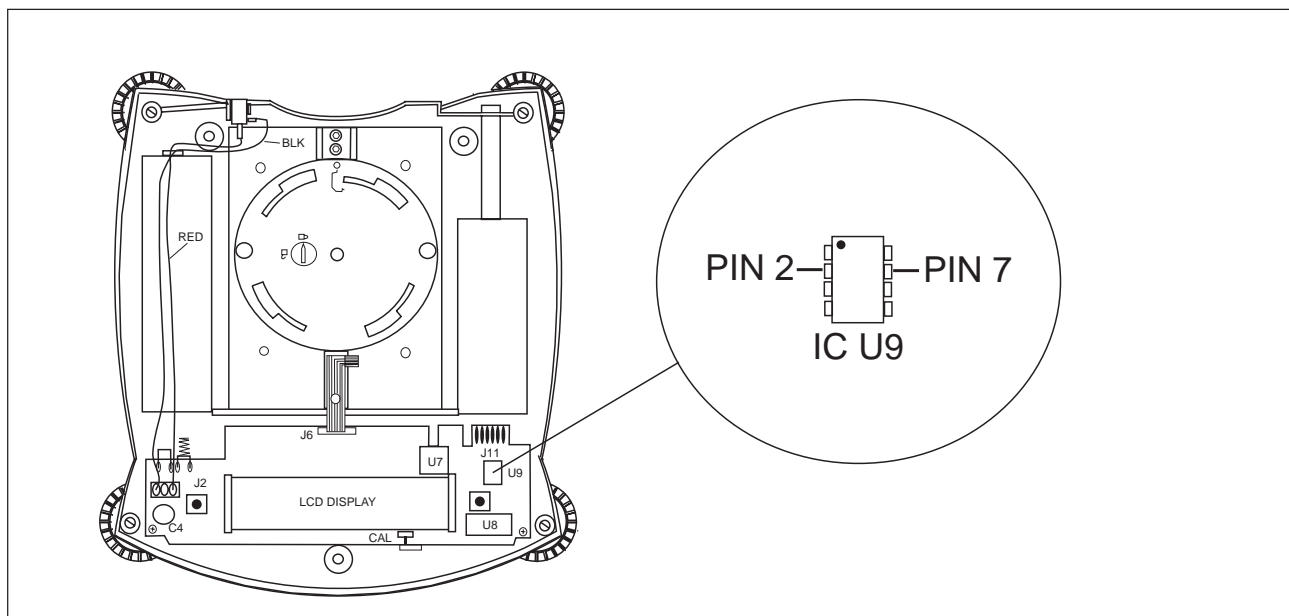

Figure B-1. IC U9 Connections.
2. Install an RS232 option with the pins shorted. See Appendix A.3. If the RS232 option is not available, pins 2 and 7 of IC9 may be shorted using a micro alligator clip. See Figure B-1.